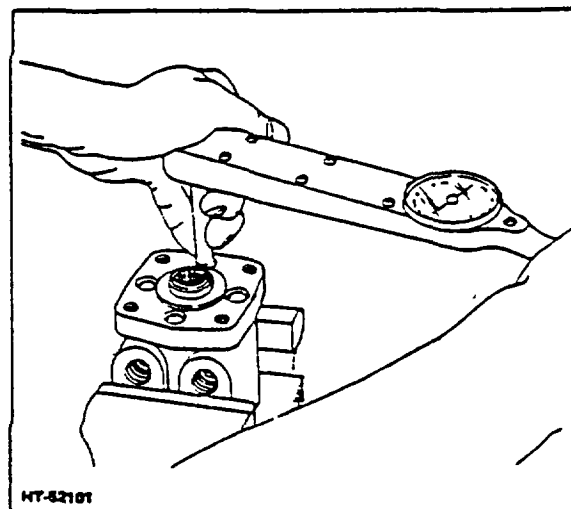

Figure 26. Tightening Mounting Plate Capscrews
15. Align the bolt holes in the cover with the tapped holes in the housing. Be sure the mounting plate rests fairly flush against end of housing assembly so that the cap locator bushing is not cocked. Install the 4 mounting plate capscrews and torque gradually and evenly to a setting of 250 lb-in. (Fig. 26).